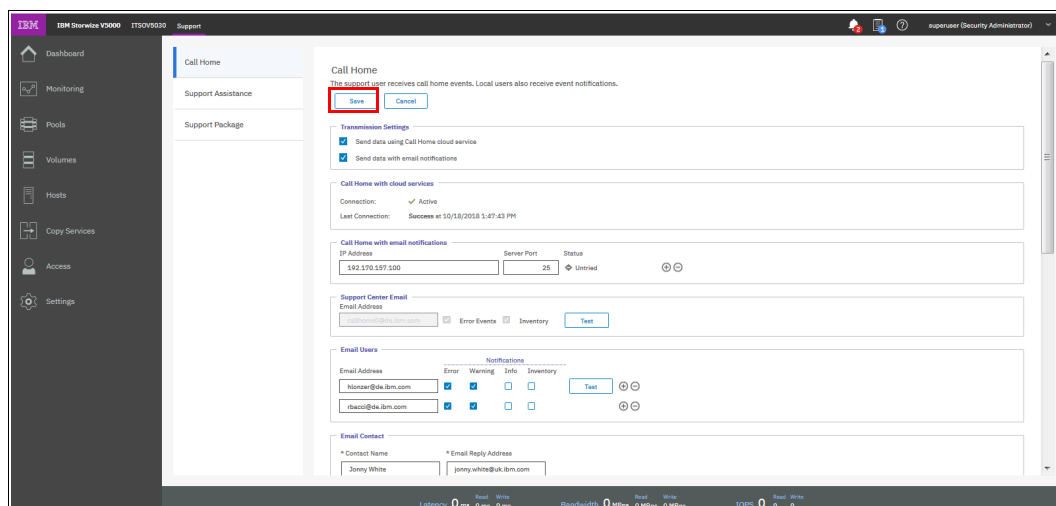

Figure 12-81 Save changes
11. Save your changes (see Figure 12-81).